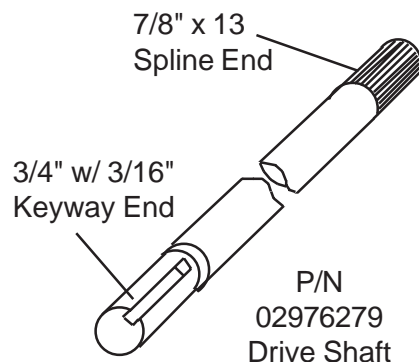

Figure 7
6. Install Pump Drive Shaft (P/N 02976279). Coat the pump Drive Shaft splined end with a anti-seize compound. Insert the drive shaft under the radiator and into the splined pulley adapter. NOTE: Some tractors have rubber under radiator, if this rubber touches the driveshaft it will have to be trimmed to clear. The rubber under the radiator can be trimmed with a knife. The driveshaft must clear any objects by a minimum of 1/16" and not allowed to rub. The driveshaft has a 7/8" X 13 spline end and a 3/4" w/ 3/16" keyway end (See Figure 7 & 8). The 7/8" x 13 spline end goes toward the engine and fits into the spline hub of the pulley adapter that is bolted to the crankshaft (See Figure 7 & 8)